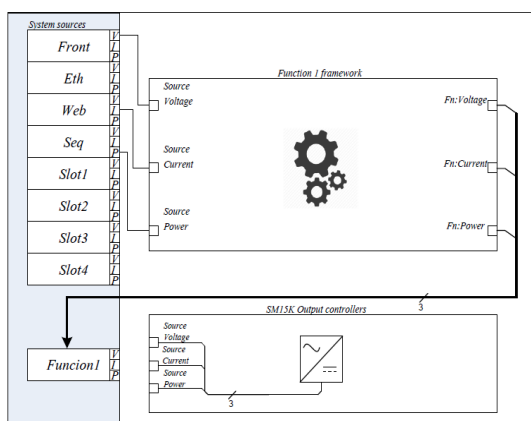

Figure 6.9: Functions Blocks can be put in between a program source and the units output controllers
- Integrated Function Blocks are functional integrated software blocks with predefined behavior that can be put in between a program source and the unit's output controllers, see Figure 6.9.